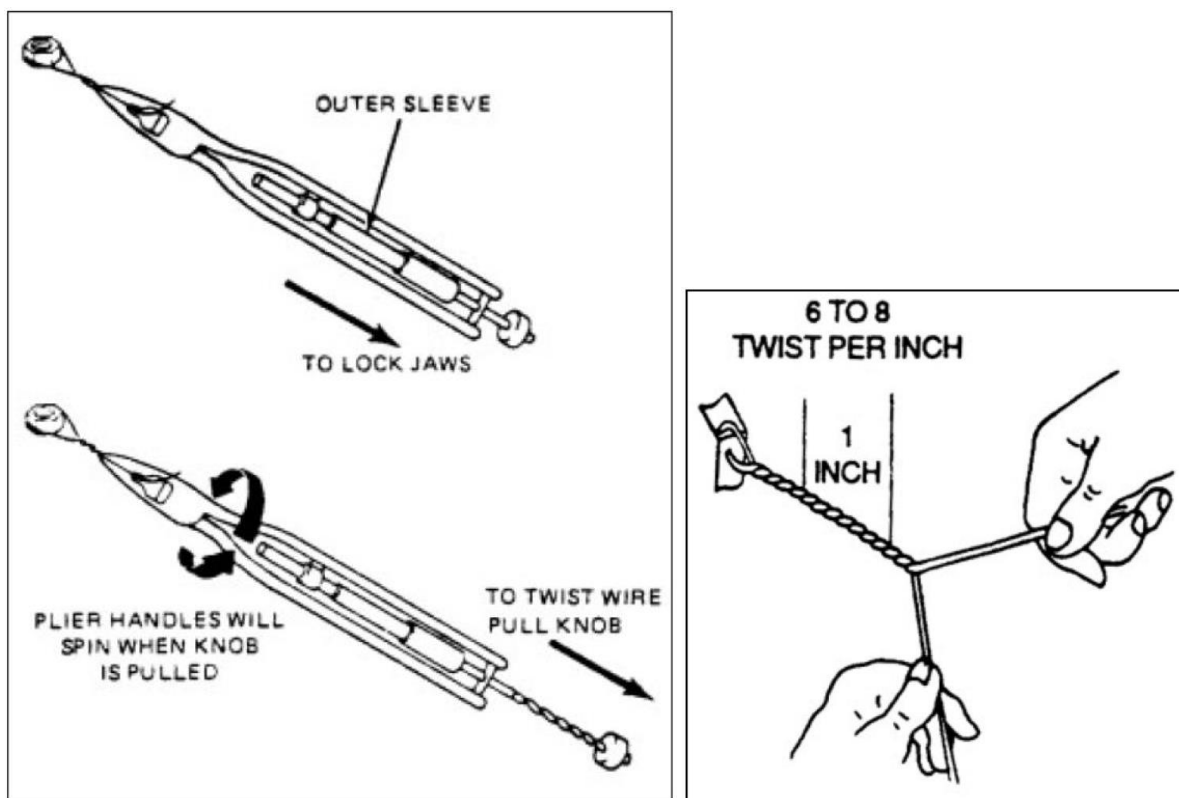

Figure 47 – Safety Wire Installation Using a Twister/Pliers & By Hand
- e. Safety wire must never be over-stressed. Safety wire will break under vibrations if twisted too tightly. Safety wire must be pulled taut when being twisted, and maintain a light tension when secured (Figure 47).